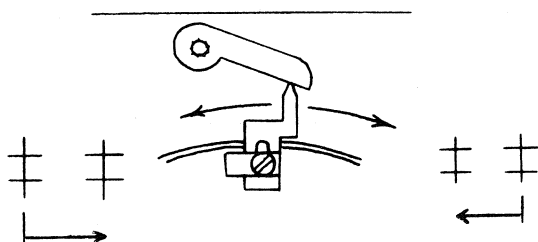

Figure 23. Actuator "3" Feet Adjustment
- 2) If the horizontal alignment is not correct bend the arm of the actuator (figure 23) in the direction necessary by inserting the actuator adjusting tool (3, figure 1) through the hole at the bottom of the camera body and straddle the arm of the actuator with the slotted end of the tool. Gently twist the tool clockwise or counter-clockwise to bend the arm. To prevent breaking the actuator arm do not bend the arm to excess.